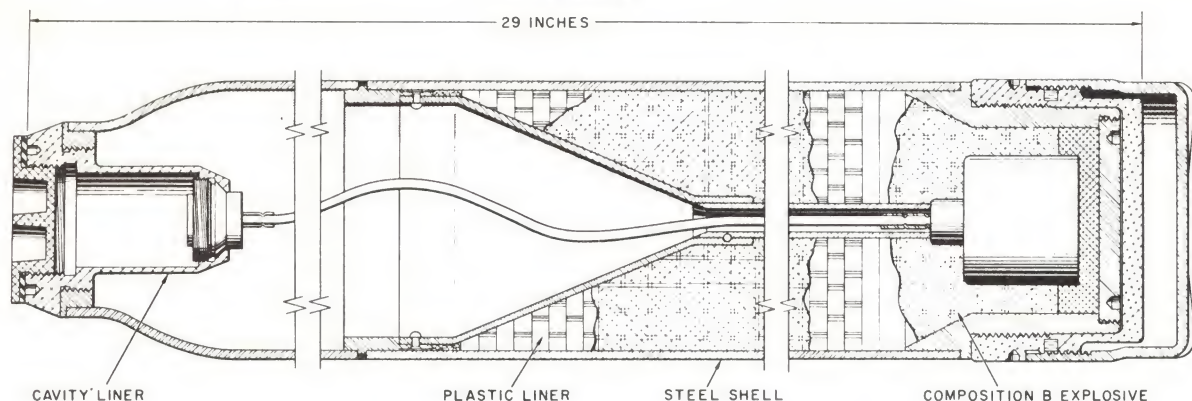

Figure 7 - 5.0-Inch Rocket Head Mk 32 Mod 0 (ATAP).
5.0-INCH ROCKET HEAD MK 32 MOD 0 (ATAP). The Mk 32 Mod 0 rocket head, anti-tank, anti-personnel (ATAP), similar to the HVAR Rocket Head Mk 25 Mod 0, is shown in figure 7. The head is 29 inches long, its steel shell is 1/8-inch thick, and its weight with fuze is 48 pounds, of which 15 pounds is high-explosive Composition B. Containing a plastic liner to control fragmentation, the head emits, upon detonation, more than 2000 high-speed, 1/4-inch-square fragments. Field tests of this head have shown capability sufficient to damage vehicles from a miss-distance as great as 70 feet from the target.